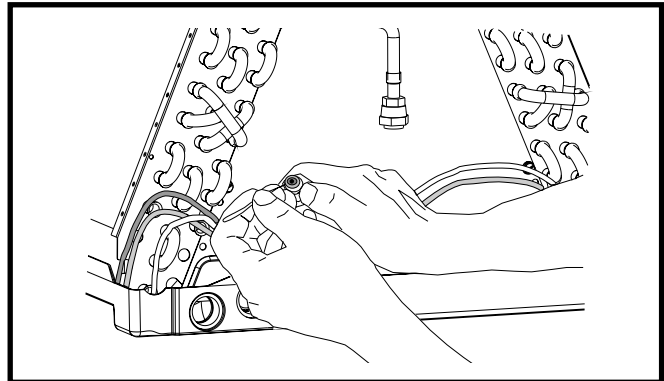

Figure 7. Restrictor Removal from Distributor Body
6. Insert a light-gauge wire hook between the distributor body and the restrictor orifice while being careful not to scratch either part. Carefully remove the restrictor orifice from the distributor body. See Figure 7.